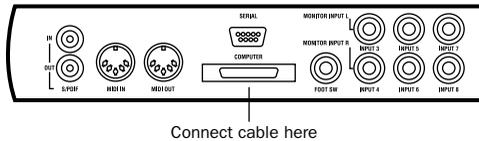

Figure 2. Digi 001 I/O, back view showing cable connector
- 3 Align the other cable end with the Computer connector on the Digi 001 I/O (see Figure 2), and insert the cable into the connector until it clicks into place.